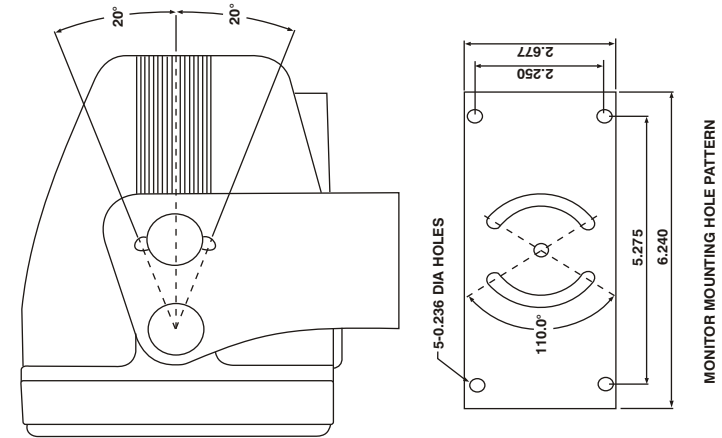

FIGURE 2
3. Adjust mounting angle of the monitor to allow driver to easily view the screen from all seat position (See Fig. 2).
4. If necessary, snap sun visor into groove on front face of monitor. Press all (4) sides of the visor to snap it into place.